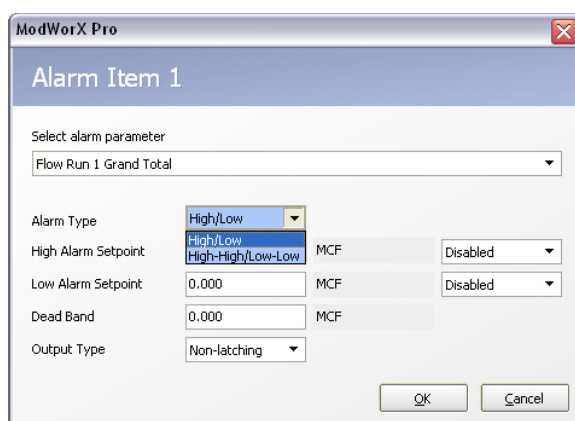

Figure 3.25
1. Click in an Alarm Item space in the Alarm Parameters table and click **Change Parameter**. The Alarm Item dialog (Figure 3.25) will appear, allowing the user to select a parameter, and determine the settings that will determine its function. Those settings include the following: